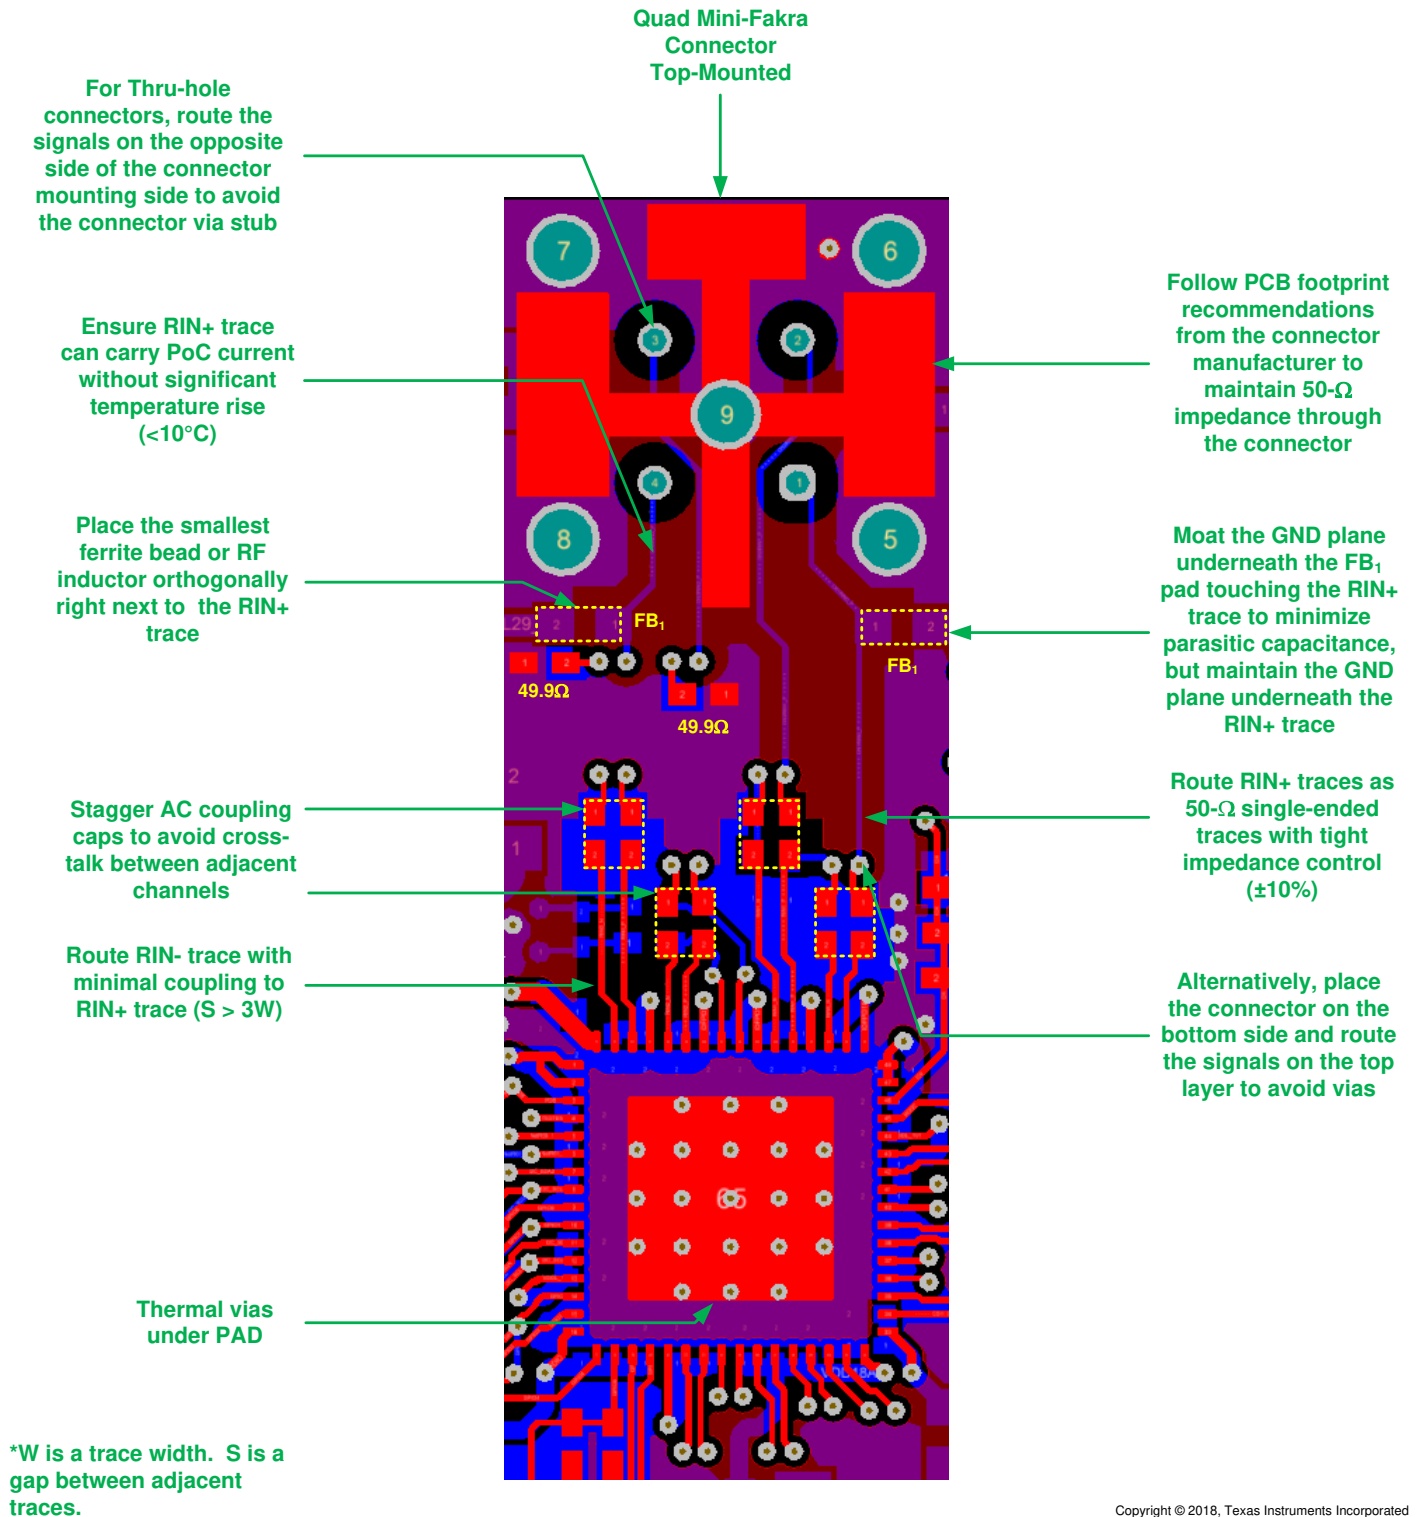

图 10-1. DS90UB662-Q1 Example PCB Layout With Quad Mini-Fakra Connector
**图 10-1** shows a PCB layout example are derived from the layout design of the DS90UB662-Q1EVM Evaluation Board. The graphic and layout description are used to determine proper routing when designing the board. The high-speed FPD-Link III traces routed differentially up to the connector. A 100- Ω differential characteristic impedance and 50- Ω single-ended characteristic impedance traces are maintained as much as possible for both STP and coaxial applications. For the layout of a coaxial interconnects, coupled traces should be used with the RINx- termination near to the connector.